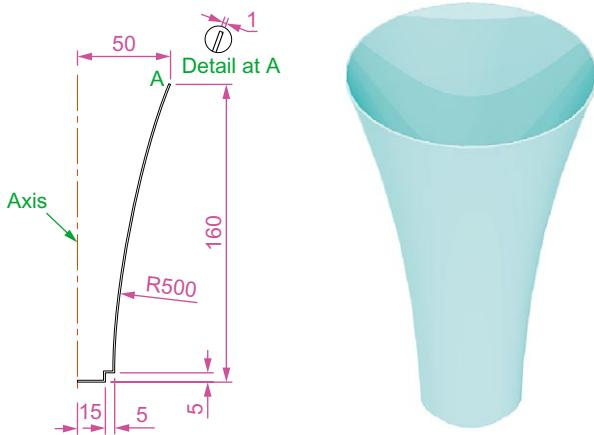

Fig. 18.19 Fourth example – 3D models
#### Fourth example (Fig. 18.19)
1. **Front.** Construct the polyline – left-hand drawing of Fig. 18.19.
4. **Isometric.** Render – right-hand illustration of Fig. 18.19.